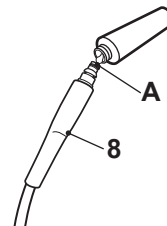

Fig. 42
Apply a drop of lubricant to the O-ring at connector of the pressure hose (8) (Fig. 42, A).